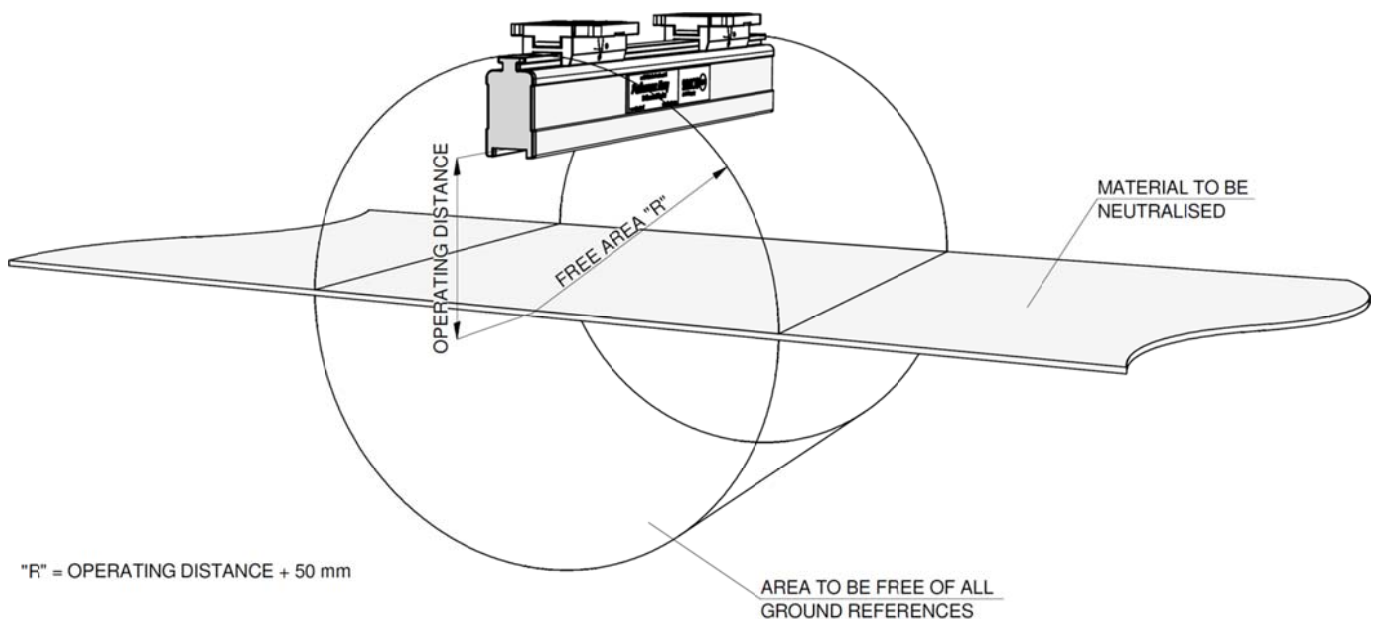

Figure 3: Optimal position Performax IQ Easy and Performax IQ Easy Speed and optional Sensor IQ Easy bar
- **For optimum results, the anti-static bar must be fitted as per Figure 3.**